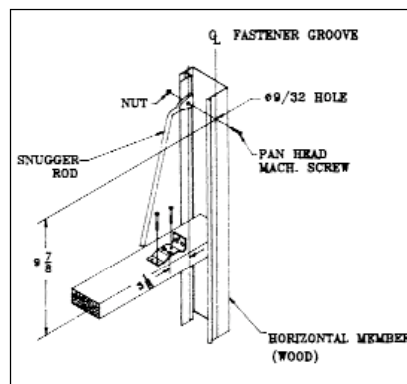

FIGURE 10
Slip the larger link on the end of the chain over the snigger rod and insert snigger rod into the rod support. Secure the opposite end to vertical member using (1) 1/4" fastener and nut as shown. **See figure 10.**
Select a horizontal door member that is at a convenient height. Drill one 9/32 diameter hole in the vertical door member. (**See figure 10**). Slip rod support on straight end of snigger rod and properly position assembly to determine proper location of rod support. Fasten rod support with (2) ring nails as shown.